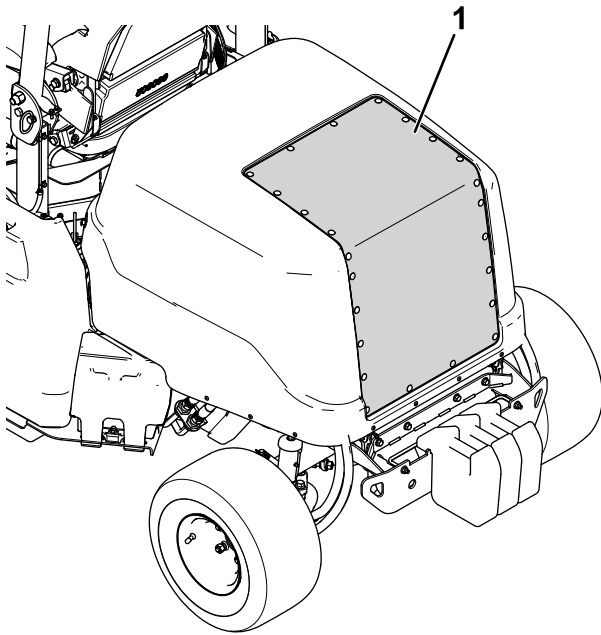

Figure 73
- Use compressed air to clean the hood screen (shown in Figure 73). Direct the air out from the machine.